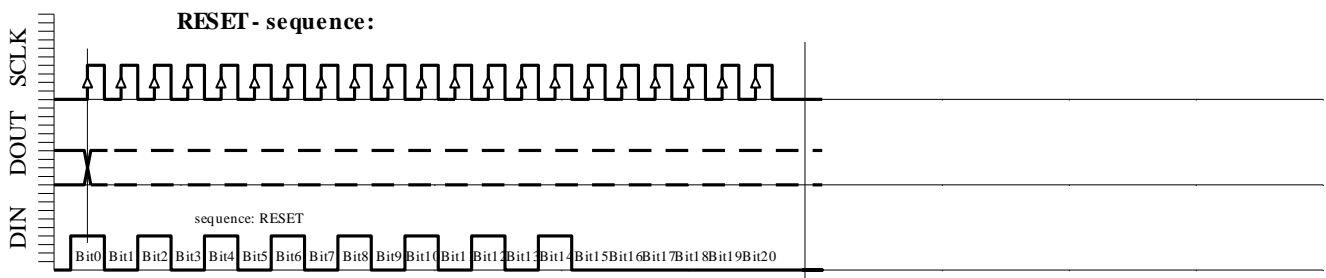

Fig. 6e: RESET sequence (21 bit)
- ◆ RESET sequence (Figure 6e)
The RESET sequence is special as the module in any state recognizes its unique pattern. By consequence, it can be used to restart if synchronization between the microcontroller and the MS5540C has been lost. This sequence is 21-bit long. The DOUT signal might change during that sequence (see Fig. 6e). It is recommended to send the RESET sequence before each CONVERSION sequence to avoid hanging up the protocol permanently in case of electrical interference.